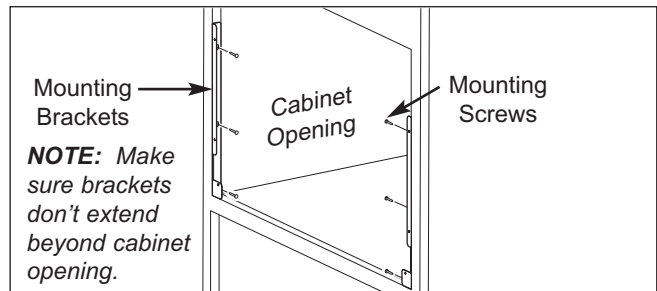

Figure 1. Cabinet Preparation
- The location of the mounting bracket will control the height of the trim kit relative to the surrounding cabinetry and microwave (See Figure 1).